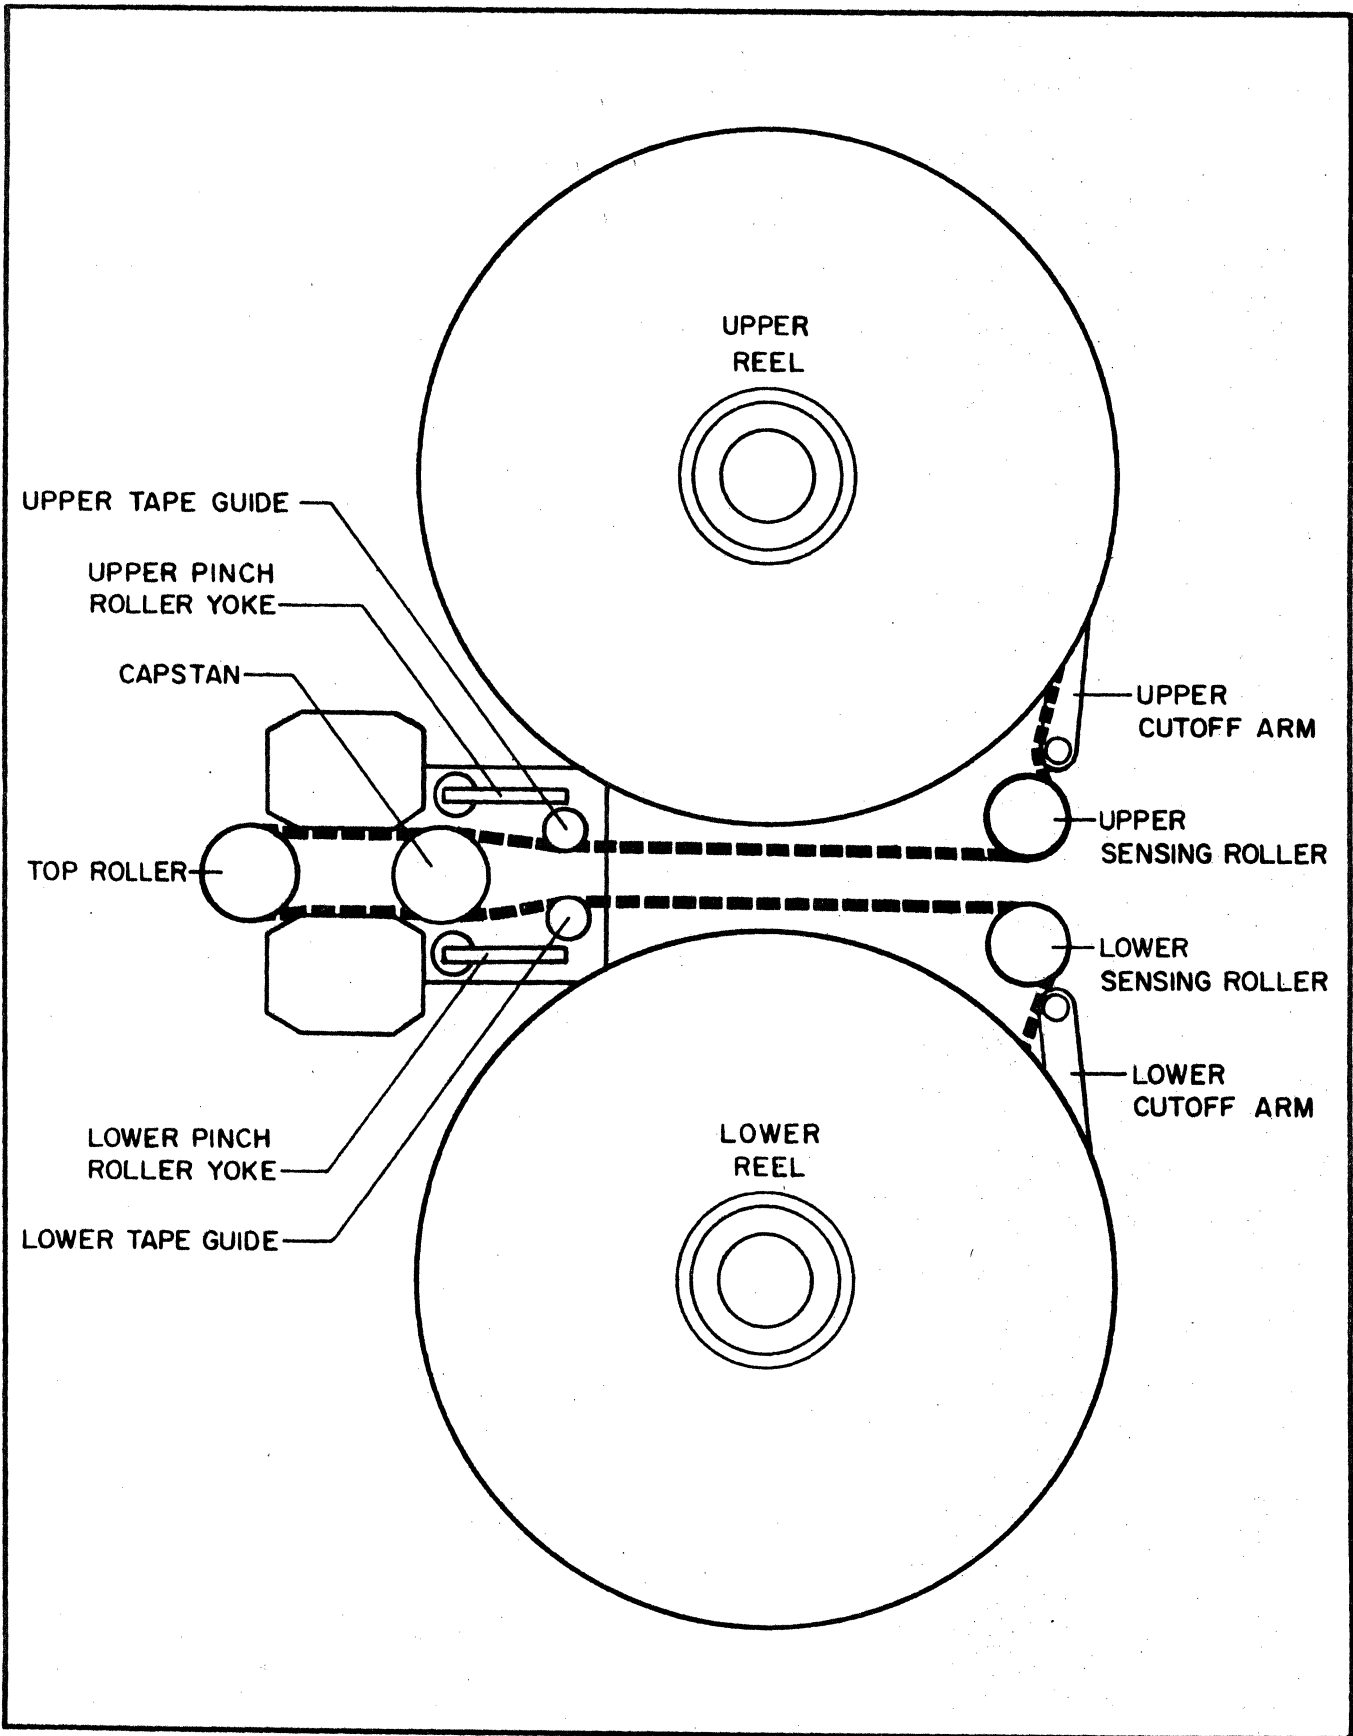

Figure 3-1. Tape Installation Threading Path
- d. Thread the tape through the tape path as shown in figure 3-1.